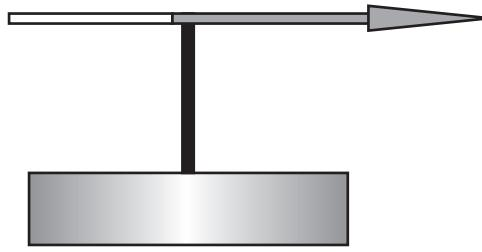

Figure Q10(a)
10. A manufacturer of sailing boat accessories is developing the electronic compass shown in Figure Q10(a).